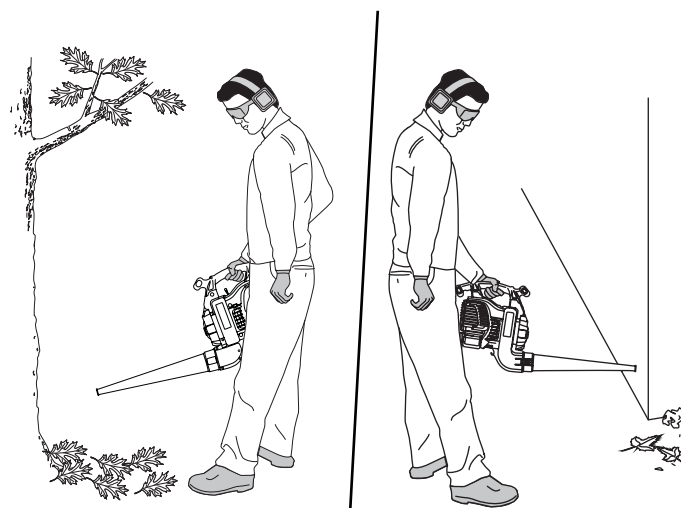

Fig. 18
- 1 Use the blower for trees, shrubs, flower beds and hard-to-clean areas (Fig. 18).
- 2 Use the unit around buildings and for other normal cleaning procedures (Fig. 18).